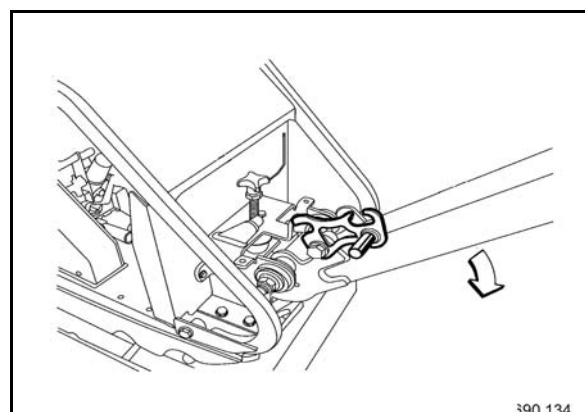

Fig. 26
- Lock the steering rod (Fig. 26) in the first locking position.